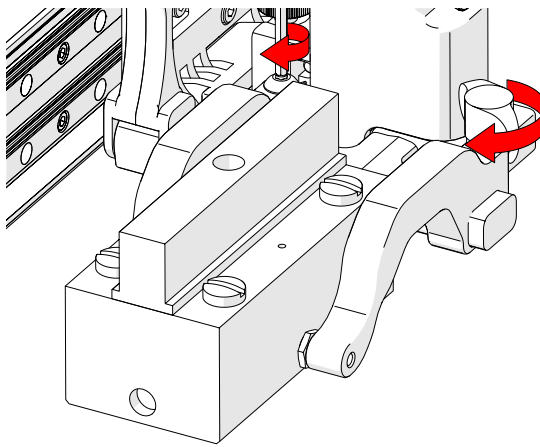

Fig. 114 - Tighten knobs and screws
7. Tighten the probe holder adjustment knob and the arm clamp screw (Fig. 114) while ensuring the wedge remains centred with the yoke.